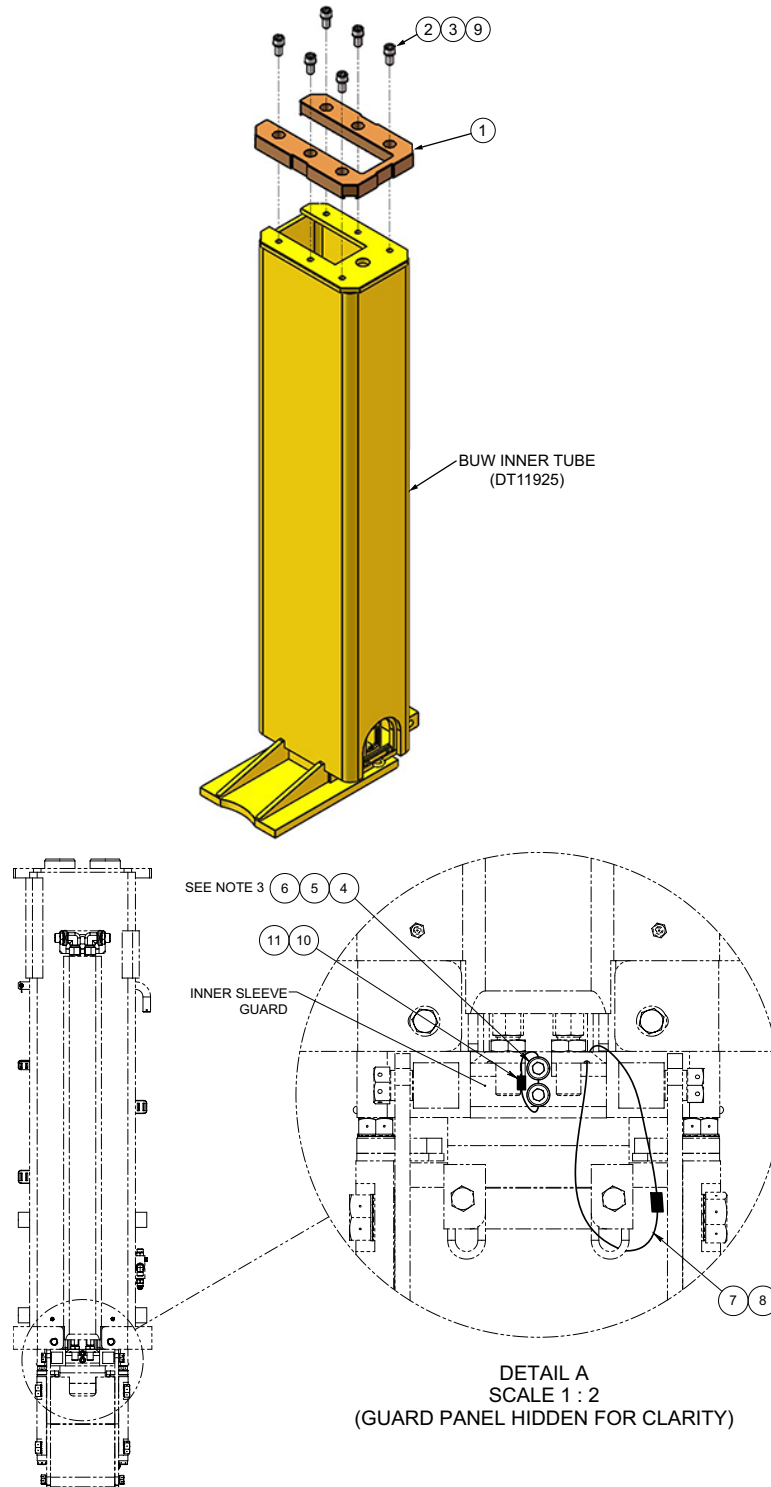

Figure 1: Field Upgrade Kit (AY26836)
3. Install the wear pad DT27442 and fasteners per modification kit AY26836 in Figure 1 on page 2. Ensure the fasteners are torqued to 149 ft-lb (202 N·m) and that Loctite is applied.